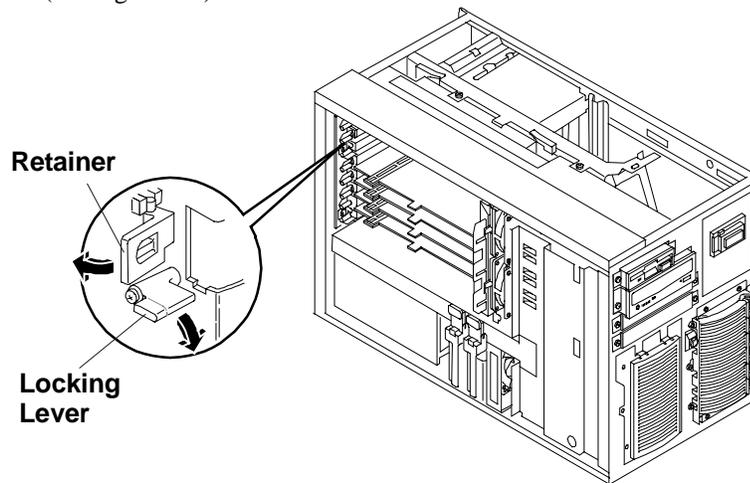

Figure 6-2. Opening the PCI Latch and Retainer
- Release the PCI slot cover by rotating the locking lever clockwise to clear the retainer (see Figure 6-2).